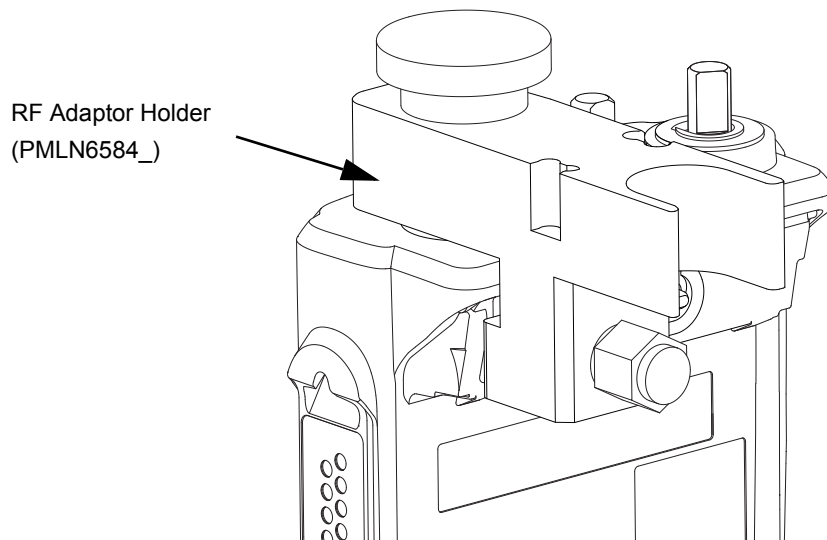

Figure 3-3. Connect RF Adaptor Holder to radio RF input/output port
- c. Connect the RF Adaptor to the 50 Ohm RF Input/Output port of the radio as shown in Figure 3-3.